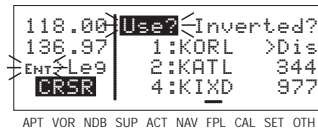

Figure 4-105
2. Press **CRSR** to turn on the cursor. It will appear over **Use?** (figure 4-105). If you haven't left the numbered flight plan since creating this flight plan, rotate the outer knob counterclockwise to position the cursor over **Use?**